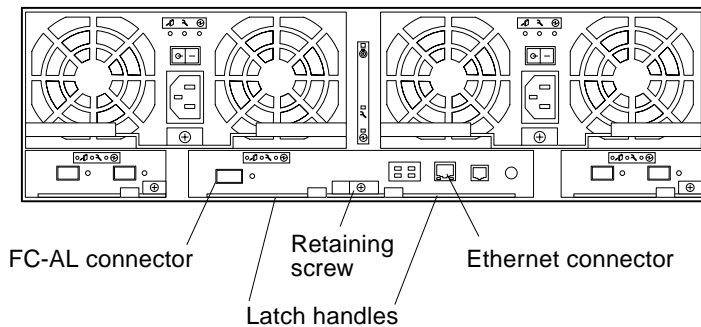

FIGURE 6-14 Controller Card
5. Loosen the Phillips retaining screw to unlock the latch handles (FIGURE 6-14).